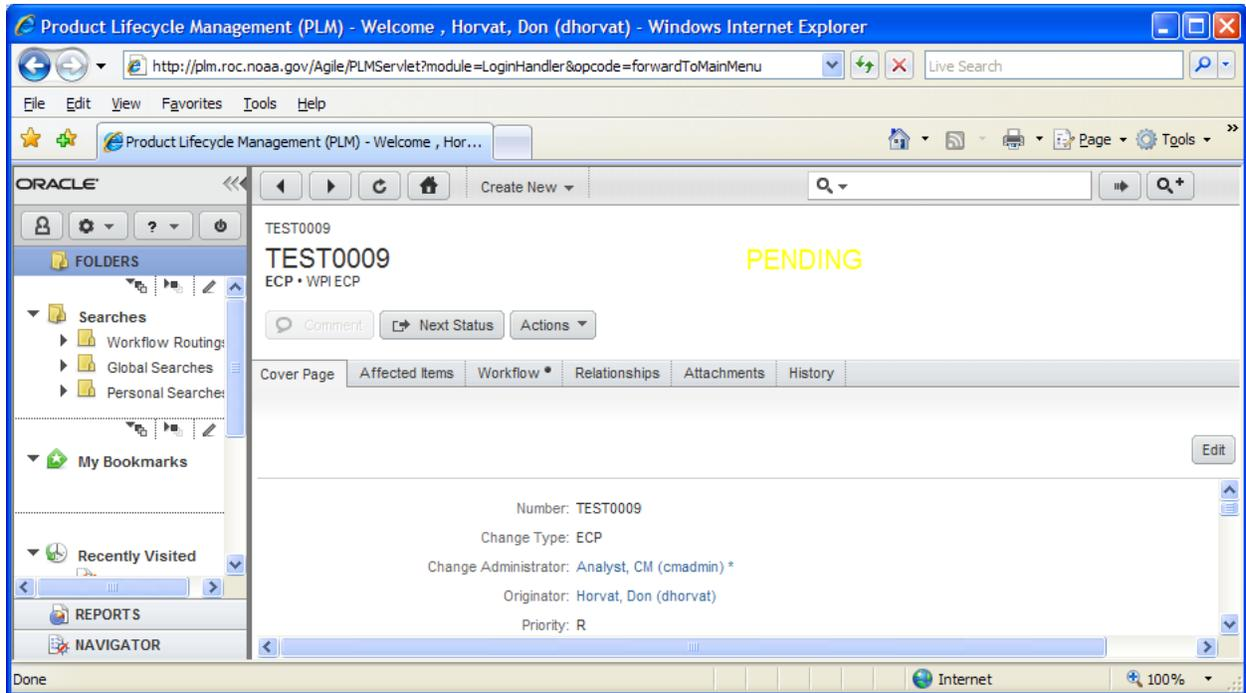

Figure 6: Agile ECP.
3. The ECP (**TEST0009**) will be displayed (Figure 6). The project lead will receive the ECP in Pending status. All preparatory work for the ECP will be performed while the ECP is in this status.